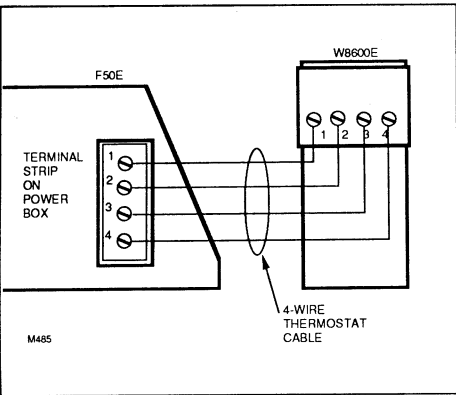

Fig. 2—Wiring the W8600E to the F50E Electronic Air Cleaner's power box terminals.
- Strip 1/4 in. insulation from the ends of the wires and connect them, matching numbers (1 to 1, 2 to 2, 3 to 3, 4 to 4) as shown in Fig. 2.